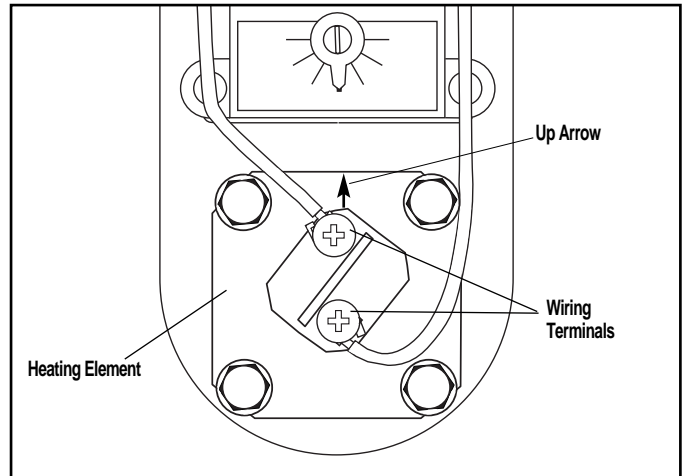

Figure 15. — Typical Element Wiring
- H. After again insuring that the electrical power is off, disconnect the two wires from the element terminals. (See Figure 15).
- J. Clean the gasket sealing surfaces of the water heater prior to preparing to install the element with a new gasket. Look at the elements mounting flange and orient the element so that the up arrow points up (See Figure 15) and insert it into place. Note that the elements tubes are stepped downward and they must be installed so they are closest to the bottom of the water heater. Insert and tighten the 4 hex screws and washers evenly.
- L. Reconnect wiring to the terminals on the element (see Figure 15).